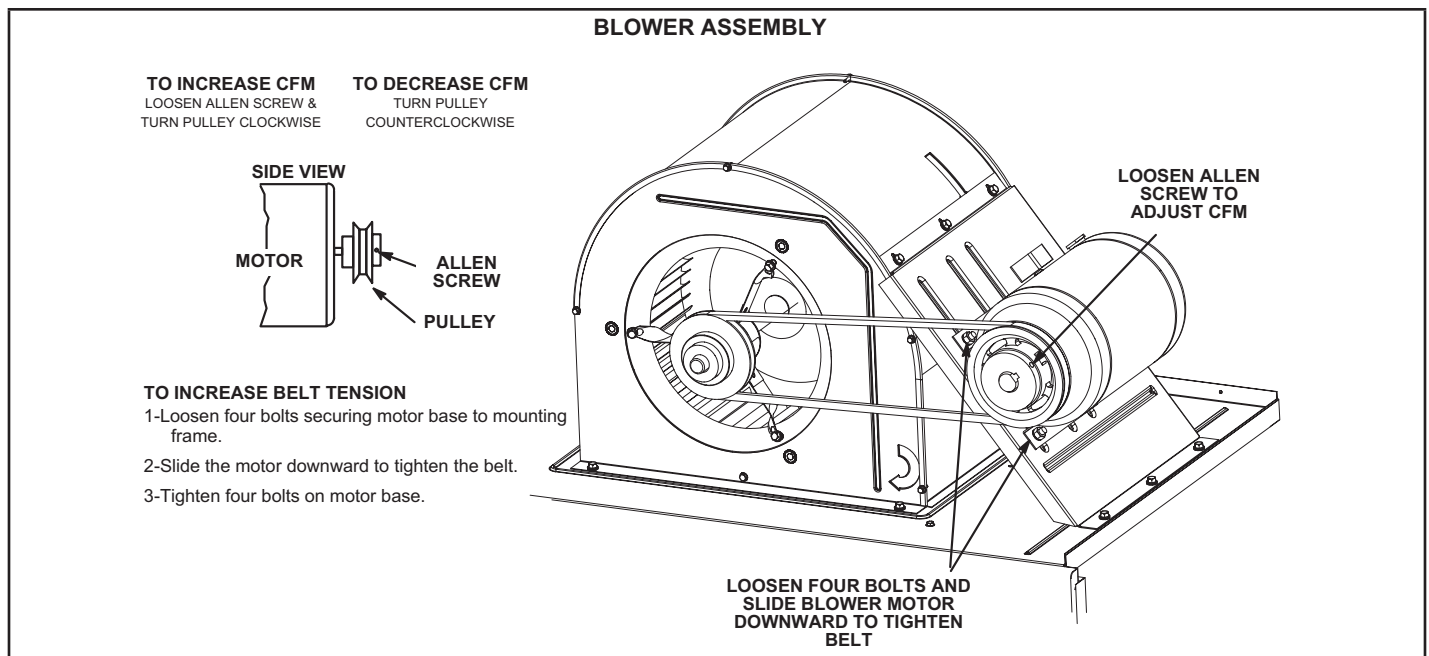

FIGURE 14
- 6 - The blower RPM can be adjusted at the motor pulley. Loosen Allen screw and turn adjustable pulley clockwise to increase CFM. Turn counterclockwise to decrease CFM. See FIGURE 14. Do not exceed minimum and maximum number of pulley turns as shown in TABLE 7.
- 1 - Loosen four bolts securing motor base to mounting frame. See FIGURE 14.